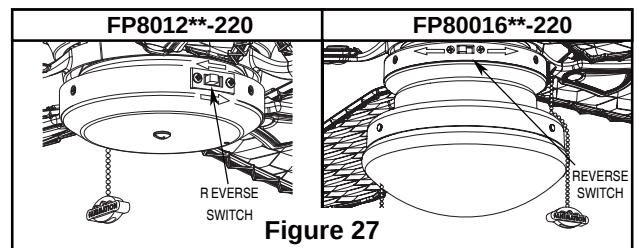

Figure 27
- ☐ 3. If airflow is desired in the opposite direction, turn the fan off and wait for the blades to stop turning. Then slide the reverse switch to the opposite position and turn fan on again. Your fan model is equipped with a 4-position, 3-speed, pull chain switch. (Figure 27)